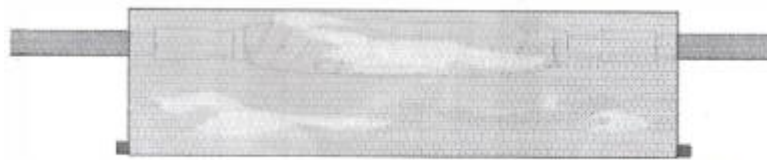

Figure 9
20. Remove the backing paper from both ends of the sheet and press the exposed sticky portions of the sheet together as smoothly as possible. (Figure 9).